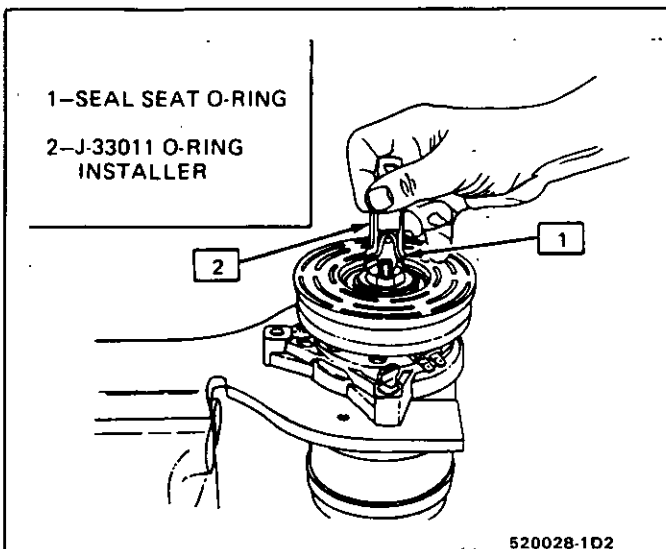

Fig. 27 Installing Seal Seat O-Ring
1. Dip the new seal O-ring in clean 525 viscosity refrigerant oil and assemble onto O-ring installer J-33011 (Fig. 27).